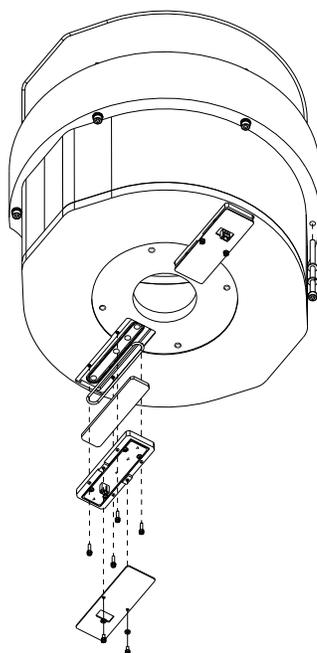

Figure 6-5: Batch Load Lock WSO Bottom
5. Disconnect WWSO and WSO Extension cables from the wafer-slide-out sensor PCBs, underneath the Load Lock bottom chamber. See Figure 6-5.